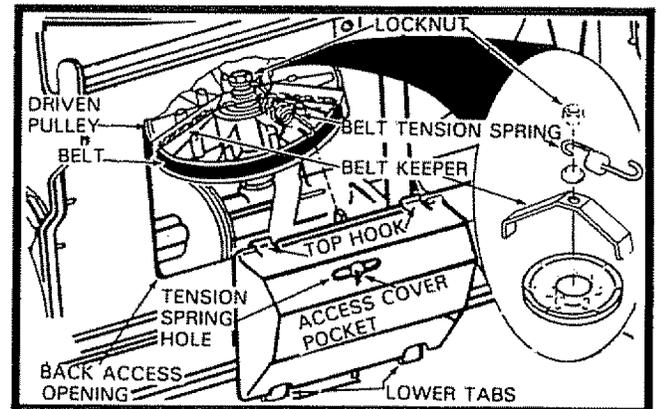
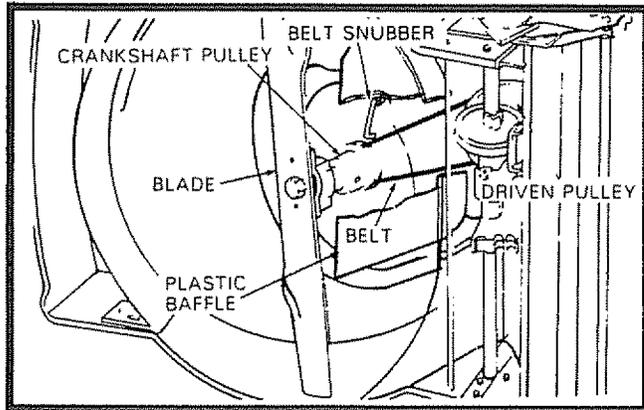

FIG. 19
FIG. 20
- Remove Plastic Access Cover by pushing down on its top surface to disengage Top Hooks—pull Cover to rear and lift up (See Fig. 19).
- Tilt Driven Pulley and Drive Assembly rearward until Locknut on Pulley Assembly is visible (See Fig. 19). Loosen Locknut until Belt can be slipped out from under Belt Keeper. Slip Belt forward from underside of Deck. Pull Belt from under Plastic Baffle and slip over Blade to remove completely (See Fig. 20).
- Tilt Driven Pulley until Belt is tight and hold. Turn Belt Keeper until right side is flush with outside of Access Opening, and tighten Locknut on Driven Pulley (See Fig. 19 and Diagram 19A).
- Using a piece of wire, pull the Belt Tension Spring End through the Access Cover Spring Hole (See Fig. 19).
- While holding tension on the Spring, with the piece of wire, install Access Cover by placing Lower Tabs into position. Make sure Spring End is pulled through the Spring Hole (See Fig. 19).